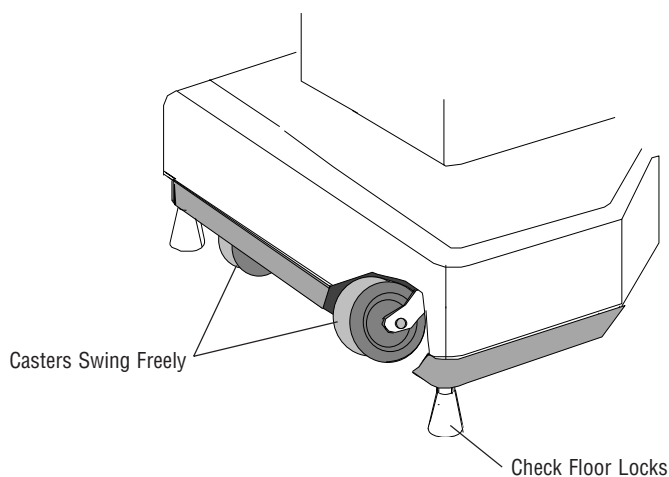

Figure 3-5. Check Floor Locks
4. Check floor locks to ensure each is snug against floor (see Figure 3-5).